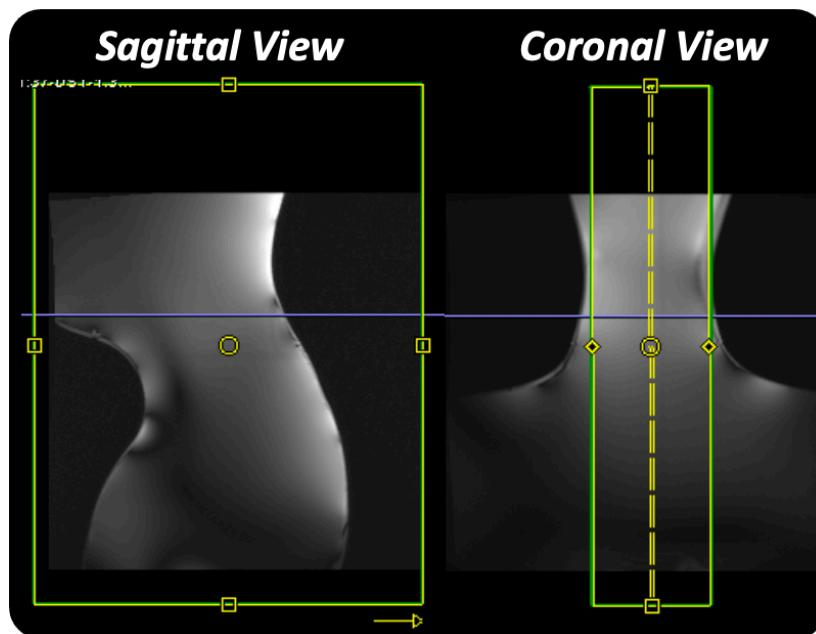

Figure 12. Positioning of FOV GRE scan.
- **Position the Field of View (FOV) according to Figure 12.** The center of the FOV should roughly correspond to the Isocentre. If the FOV in the FH direction for the imported protocol is too large for your coil, use the largest FOV possible in the FH direction for your coil.
- **Position the B0 adjust volume according to Figure 12.** The B0 shim volume should cover the whole FOV. If it does not, go to System > Adjust Volume, and click Reset.